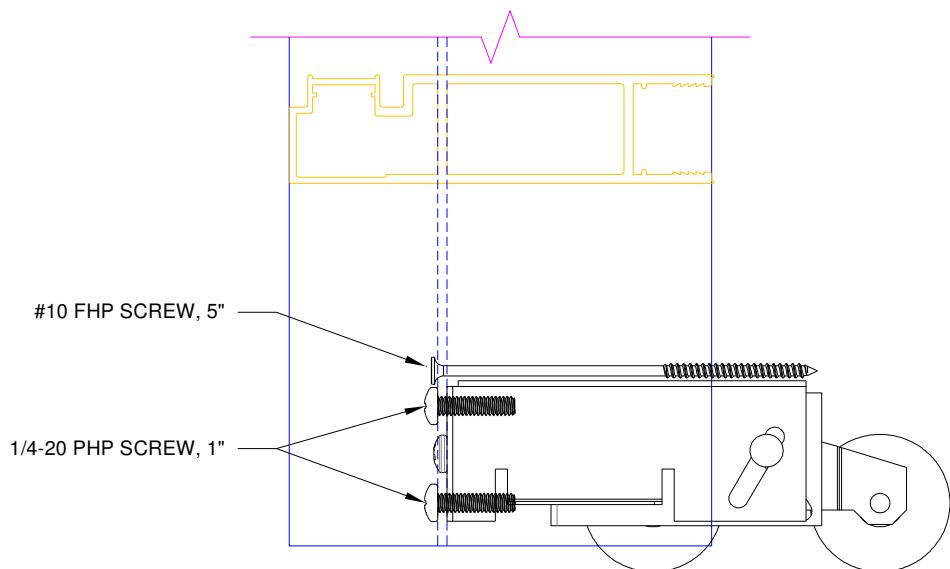

Figure A1:
2. Attach the roller to the 90° lead stile using 1/4-20 PHP Screws, 1" long located in the red bag (Figure A1).